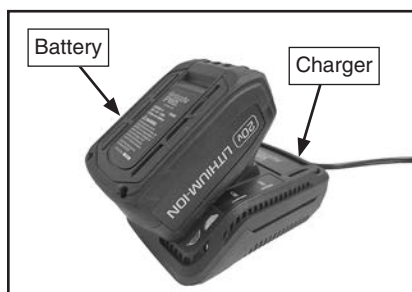

Figure 4. Battery in charger.
3. Slide battery into charger until battery clicks in place (see **Figure 4**). Red light will illuminate while battery is charging. When green light illuminates, battery is fully charged.